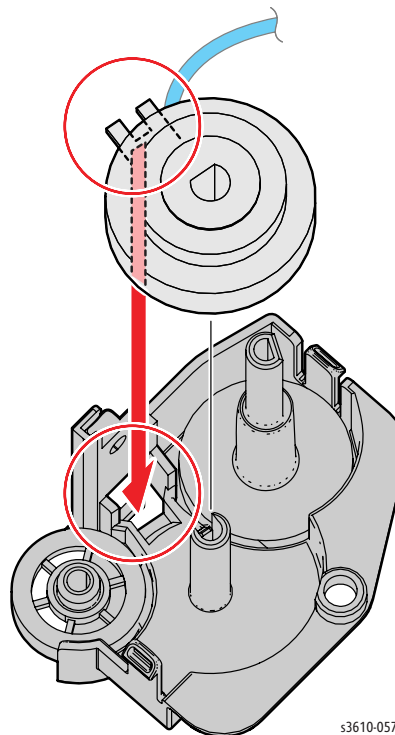

Figure 4
1. When installing the invert clutch, align the tab with the Exit Invert Drive Assembly stopper. (Figure 4)